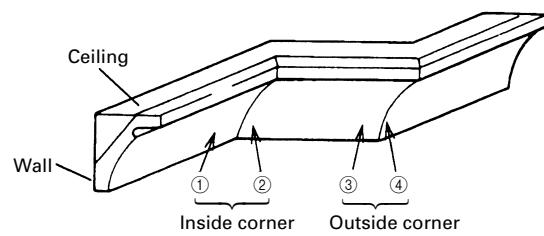
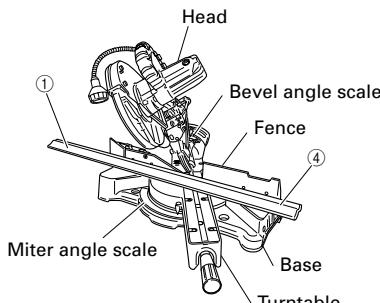
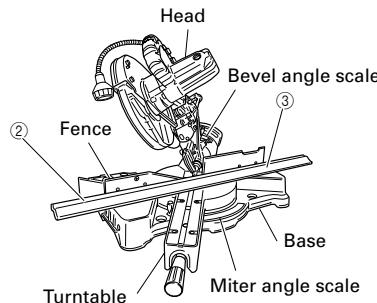

Fig. 34
Fig. 36
Fig. 37
For the typical crown molding fittings, see Fig. 34.
### (1) Setting to cut crown moldings at positions ① and ④ in Fig. 34 (see Fig. 36; tilt the motor head to the left):
- ① Turn the turntable to the right and set the Miter Angle as follows:
(2) Setting to cut crown moldings at positions ② and ③ in Fig. 34 (see Fig. 37; tilt the head to the left):
- ① Turn the turntable to the left and set the Miter Angle as follows: